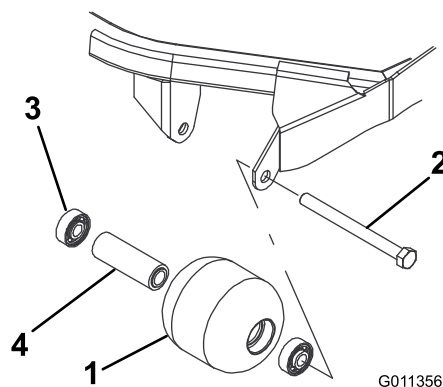

Figure 71
1. Remove the roller-mounting bolt (Figure 71).
4. Inspect the roller housing, bearings, and bearing spacer for damage (Figure 71). Replace damaged components and assemble.
1. Press the first bearing into the roller housing (Figure 71). Press on the outer race only or equally on the inner and outer race.
2. Insert the spacer (Figure 71).
3. Press the second bearing into the roller housing (Figure 71). Pressing equally on the inner and outer race until the inner race comes in contact with the spacer.